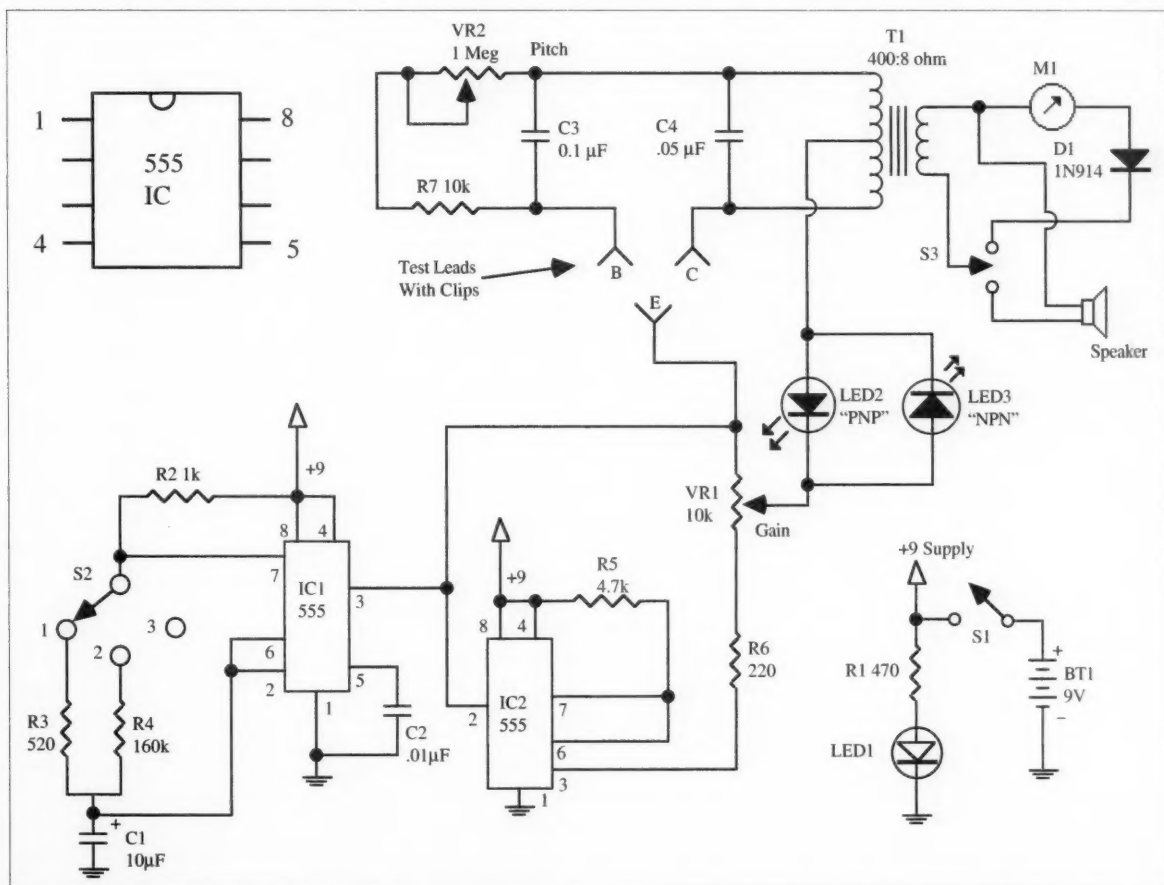

Fig. 1. The transistor/diode test set schematic. S2 positions: (1) diode test; (2) transistor test/identify; (3) freeze last pulse.
**Fig. 1** provides the schematic diagram of the transistor tester set. IC1 and IC2 are both 555 timers and their outputs are capable of sourcing or sinking up to 150 milliamps of current. IC1 is connected as an astable multivibrator and the output clock rate is dependent upon the values of C1, R2 and the setting of selector switch S2. The output clock from IC1 is connected to the trigger input of IC2 and also connected to one side of variable rheostat VR1. IC2 is wired as an inverter and simply provides a complementary output, of IC1, to the other side of VR1. When the selector switch is in position 1 or 2, the DC voltage on the two 555 timer output pins is continually reversing in polarity and similar to a flip-flop in operation. When the selector switch is moved to position 3, the RC network of IC1 is disconnected so that the last output voltage pulse remains constant.